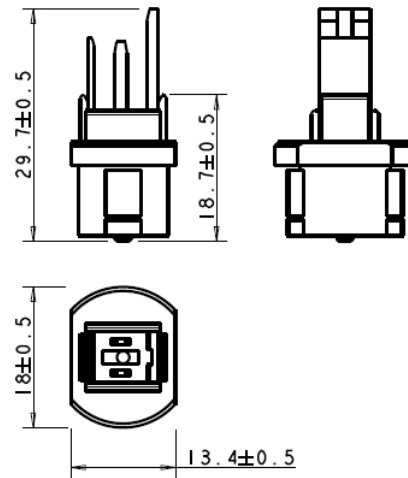

Fig. 3
- AMP MODU1 connector P.3,96 (model ST11 M/1, see Fig.3)